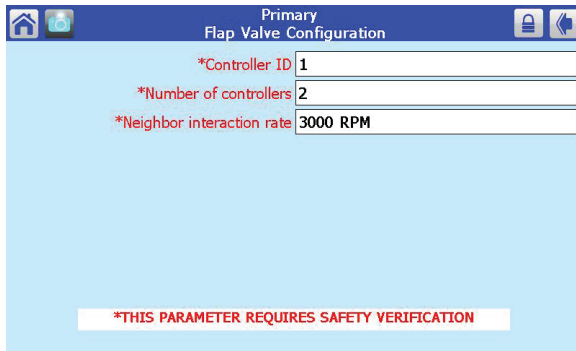

Fig. 43 - Verification Needed
- If you make a change in any group that could affect the safe operation of the unit, the control system will ask you to “verify” the change before it is accepted. As an example, let's say that we wanted to change the configuration for one of the flap valves. See Fig. 43. A line printed in red at the bottom of the screen indicates that the system wants to do a safety verification. (All of the parameters in this group have safety-related functions. If you change any of them, you will have to do the verification for the whole group.)